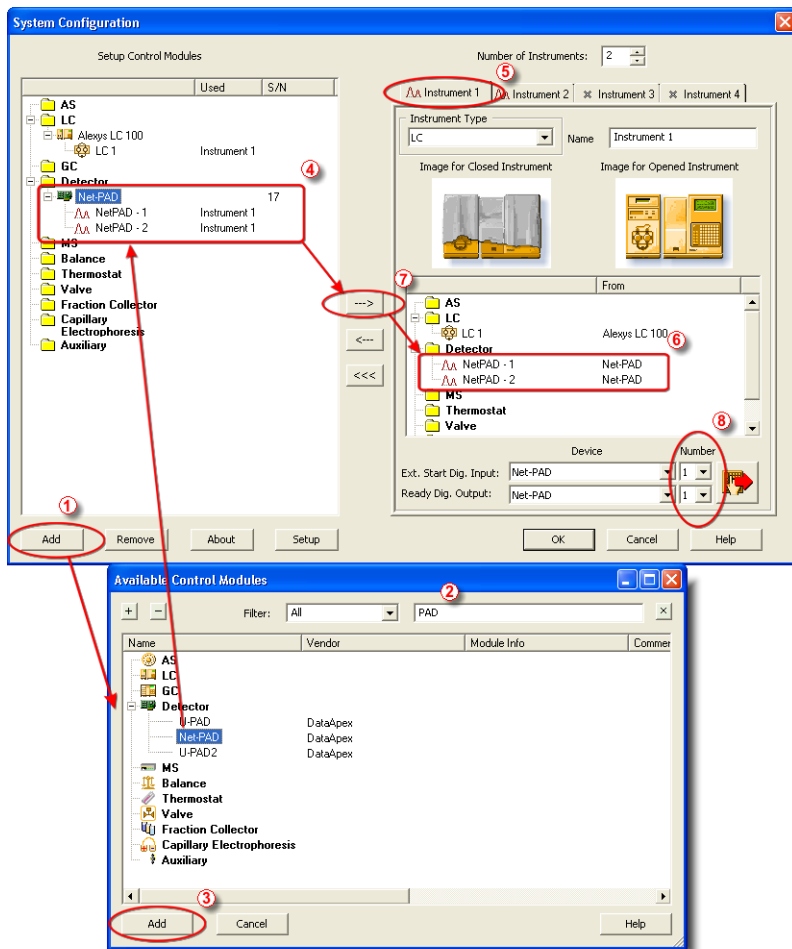

Fig. 8: System Configuration
- Press the *Add* button ① (See Fig. 8 on pg. 12.) to invoke the *Available Control*